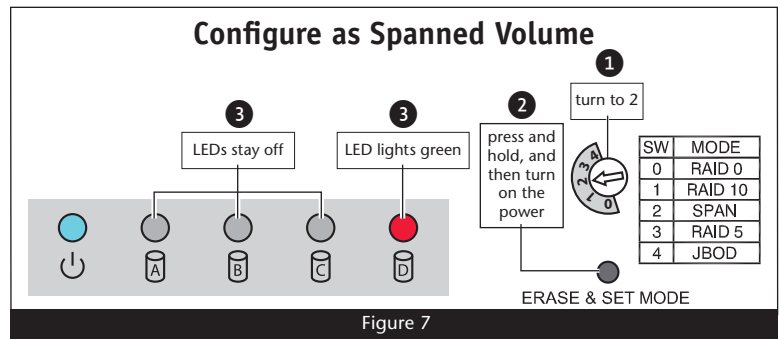

Figure 7
- to the 2 position for Span (Figure 7)